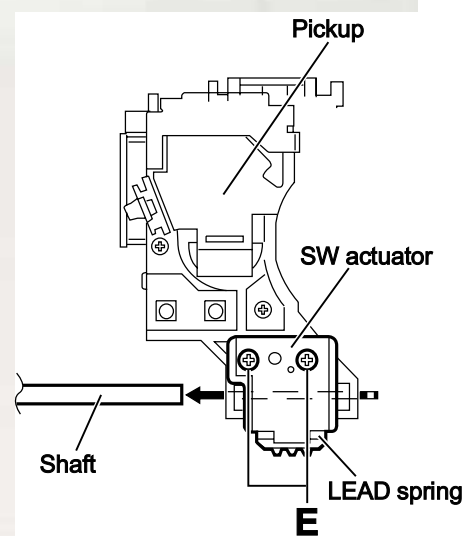

Fig.9
- Pull the shaft out of the pickup. (See Fig.9.)
- (1) Attach the shaft, SW actuator and LEAD spring to the pickup. (See Fig.9.)